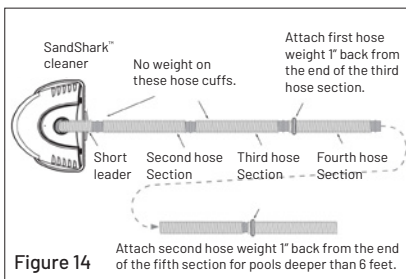

Figure 14
3. Verify hose connections as shown in Figure 14, and that gate valves are fully open in the suction line.
It may or may not be necessary to add weight to your hose, depending on your pool's size, shape, and depth. Try the cleaner first without any hose weights. If the hose is too buoyant, add the weight as shown in Figure 14.